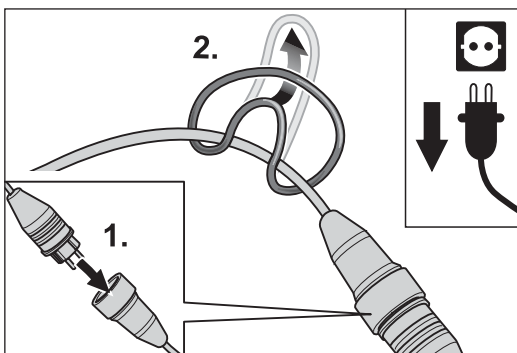
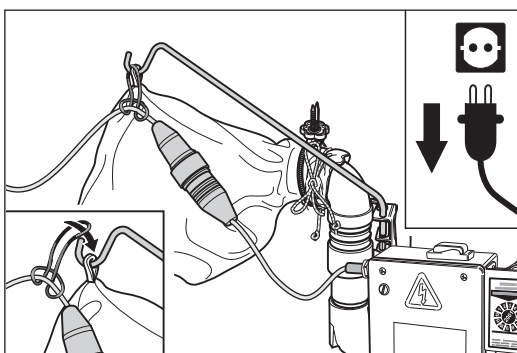

Fig. 31 Connect the motor cable including the extension cable to the extension cable and then fasten the strain relief ring to the extension cable.
Fig. 32 Run the extension cable past the right-hand side of the dust bag and then hook the strain relief ring into the cable rod.
- 1 Insert the plug of the motor cable into the coupling of the extension cable (Fig. 31, 1.).
- 2 Fasten the strain relief ring to the extension cable (Fig. 31, 2.). Run the extension cable past the right-hand side of the dust bag and then hook the ring into the cable rod (Fig. 32).